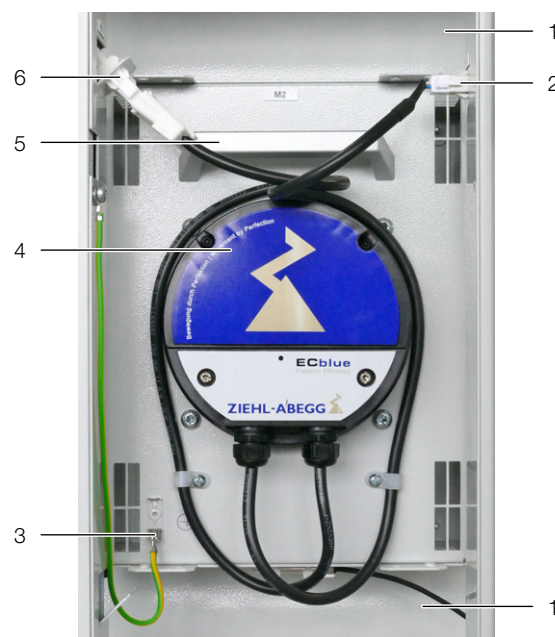

Fig. 38: Fan module in fan tray
- Release the two DC and AC fan connectors on the left and right (fig. 38, items 2 and 6).
- Disconnect the PE conductor connection on the fan (fig. 38, item 3).